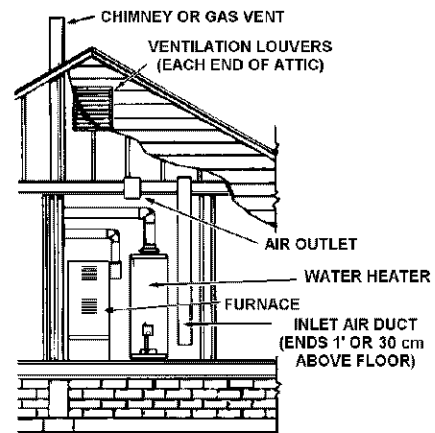

FIGURE 12.
- When directly communicating with the outdoors, each opening shall have a minimum free area of 1 square inch per 4,000 Btu per hour (5.5 cm2/kW) of total input rating of all equipment in the enclosure. See Figure 12.
- When communicating with the outdoors through vertical ducts, each opening shall have a minimum free area of 1 square inch per 4,000 BTU per hour (5.5 cm2/kW) of total input rating of all equipment in the enclosure. See Figure 12.